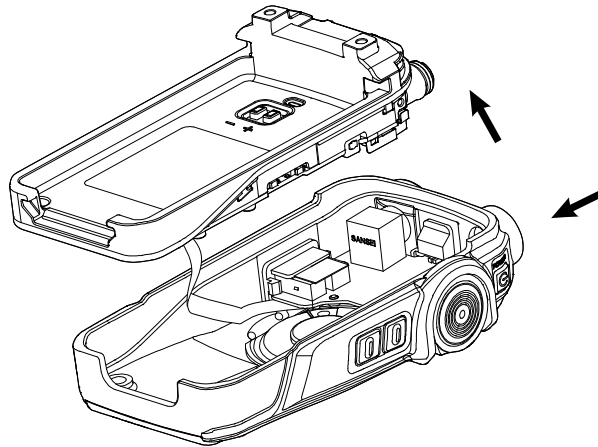

Figure 7
- ⑤ After removing the antenna pedestal from the front case, pull out the aluminum chassis along the antenna pedestal direction gently. To avoid unexpected FPC failure, remember not to pull the chassis backwards with much strength. See Figure 7.